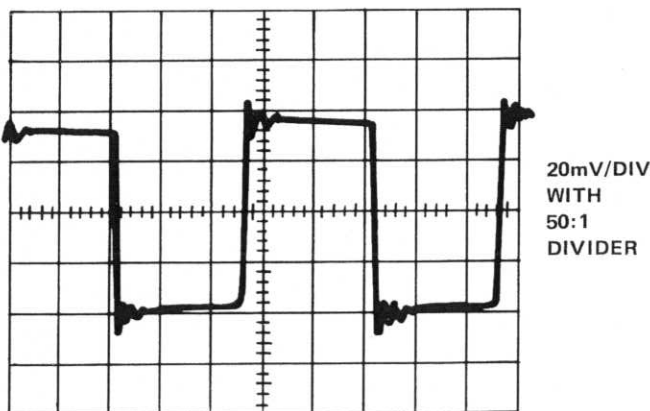

Figure 5-2 Typical 1MHz output
3. Check that the output is a pulse train at the same frequency as the input. A typical example is shown in Figure 5-2.